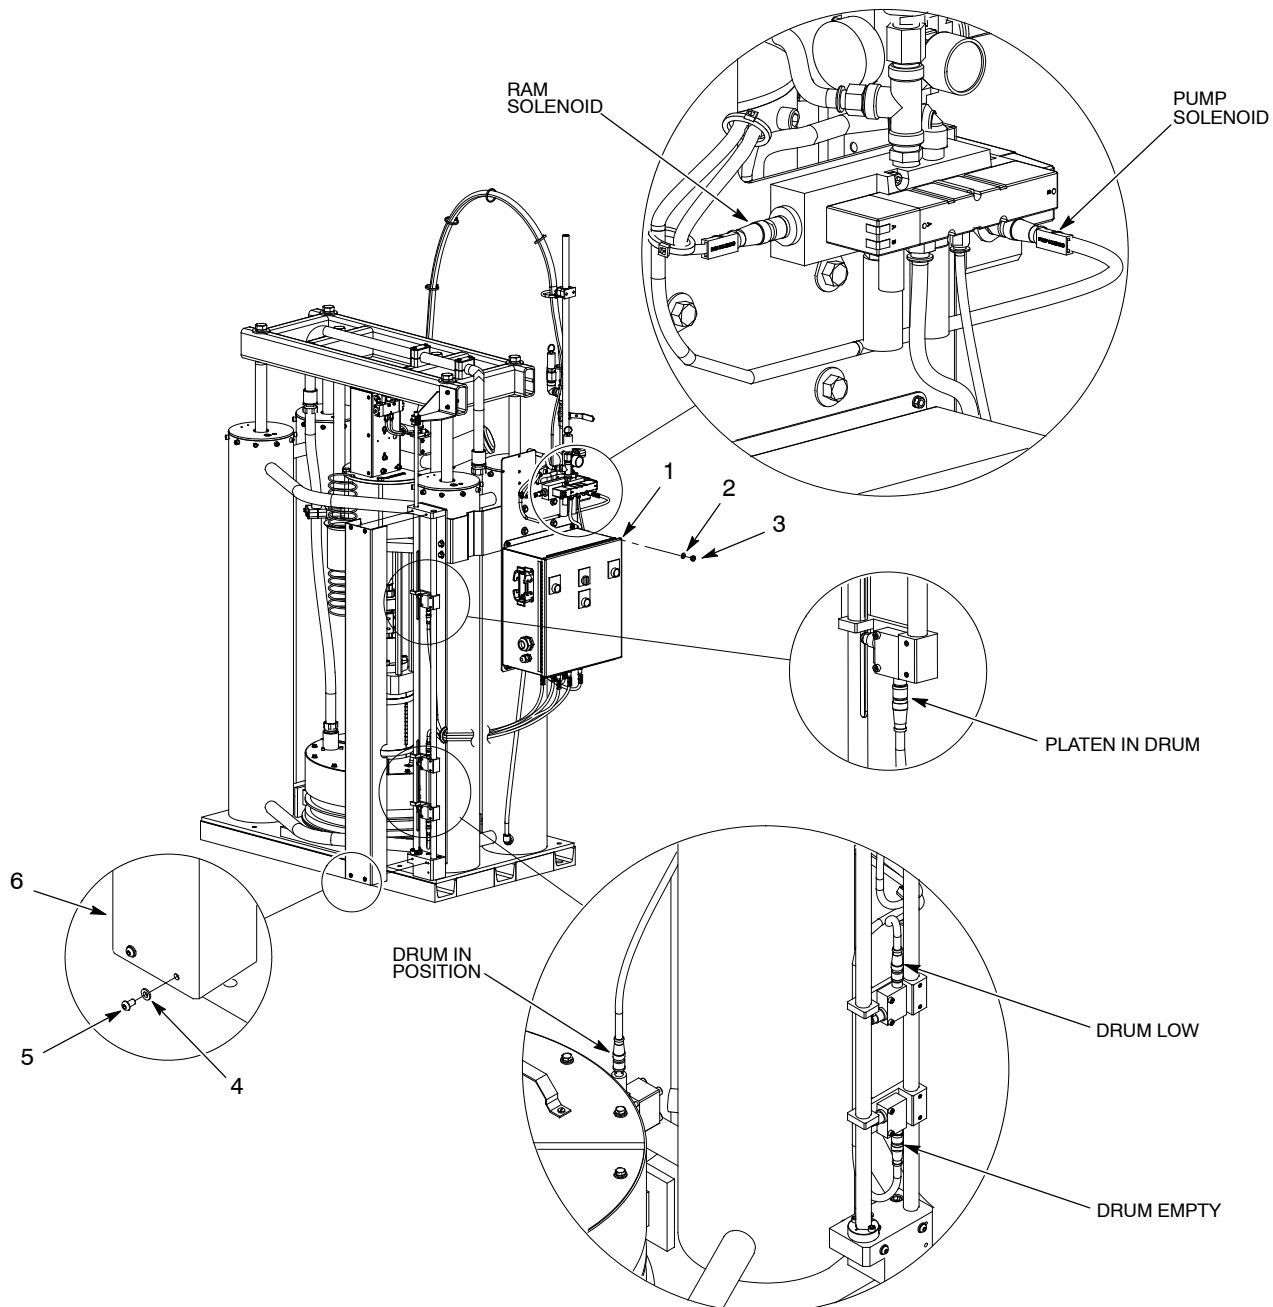

Figure 2 Installation
1. See Figure 2. Remove the screws (5) and washers (4) securing the drum level detect cover (6) to the bulk unloader (7).
2. Install the J-Box module (1) to the bulk unloader (7) using the washers (2) and nuts (3). Tighten the nuts securely.
3. Connect the cables from the J-Box module (1) to the components on the bulk unloader (7) as shown.
4. Install the drum level detect cover (6) onto the bulk unloader (7) using the washers (4) and screws (6). Tighten the screws securely.